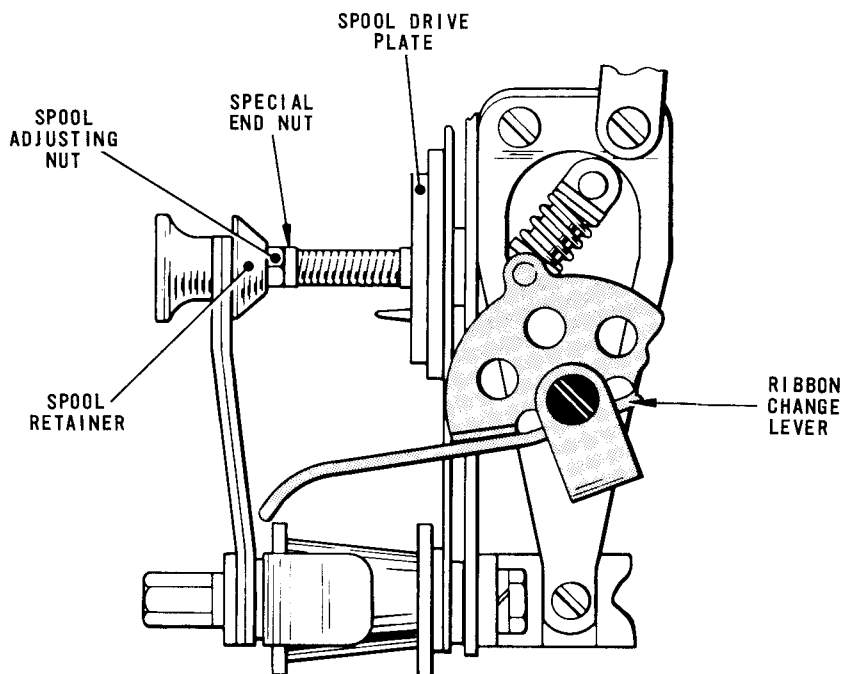

Fig. 4.54 RIBBON SPOOL CLEARANCE
- 65.1 Move the ribbon change lever, Fig.4.54, until the ratchet wheel is disengaged from the ratchet coupling and the left-hand spool is free to turn. Check that
- 66.1 Remove the ribbon spools and check that there is a clearance of 0.63 - 0.64 in. (16 - 16.25 mm) between the inside face of the left-hand spool retainer, Fig. 4.54, and the left-hand spool drive plate. Repeat this check for the right-hand side of the ribbon unit. If no adjustment is required, refit the ribbon spools.